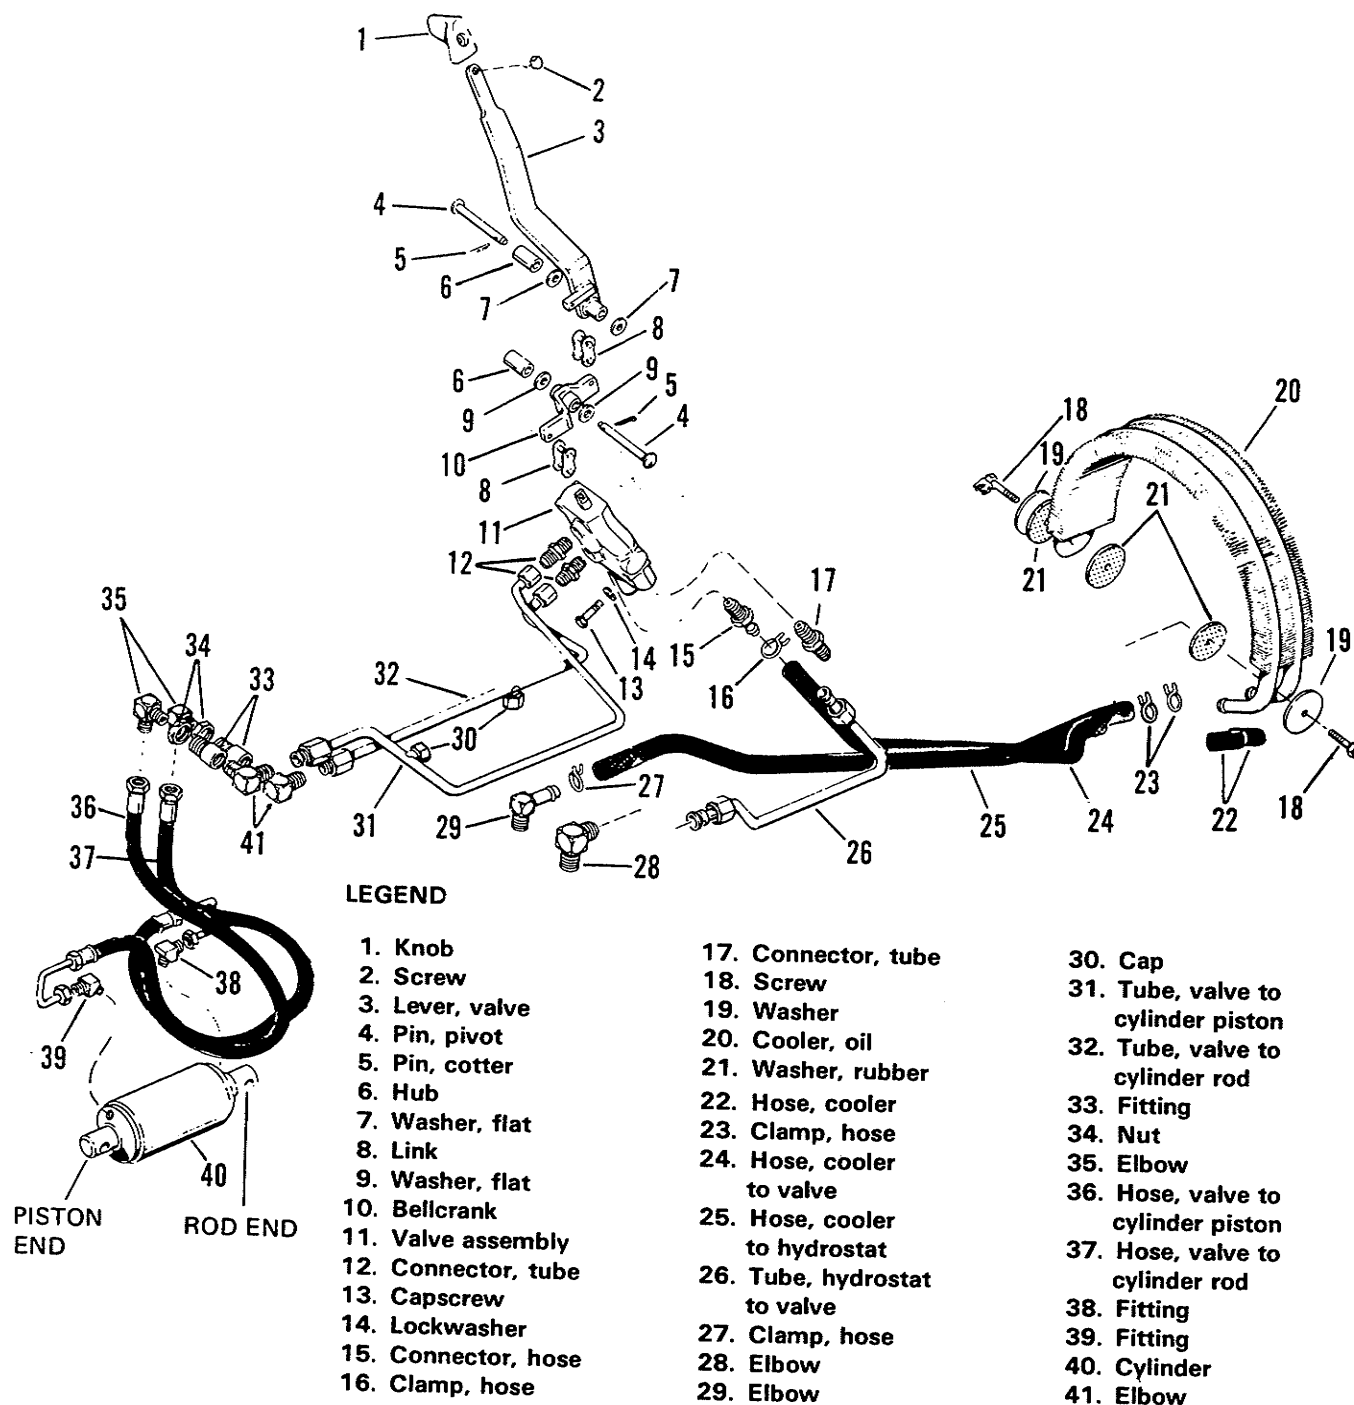

Figure 66. Power Lift System Removal and Installation (4040, 4041, Pow'r Max)
1. Remove the hydraulic control valve (Figures 66 and 67) .
- 3. Install the hydraulic control valve (Figure 66 and 67).
- a. Install the six connectors (12, 15, and 17) in the control valve. Make sure the hose connector (15) is installed in the correct orifice.
- b. Secure the control valve to the frame support with the two mounting screws (13).
- c. Attach the hose (24) to the hose connector with the hose clamp. Install the tubing caps (30). Attach the valve tubing (26, 31, 32, 54, and 55) to the connectors at the valve.
- d. If the lever assembly was disassembled, assemble it. Attach the connecting links (8) to the control valve and bell cranks (10). Check for proper operation of the control valve.
1. Remove the oil cooler (Figure 66 and 67).
- a. Remove the 1/4-20 x 1-1/2 inch long cap-screw (18) and two rubber washers (21)
3. Install the oil cooler (Figures 66 and 67).
- a. If the short hoses (22) were removed, install them on the oil cooler tubing. Attach the hoses to the oil cooler tubing using the hose clamps (23). The hoses must be positioned on the tubing so the clamps are installed behind the raised portion of the tubing.
- b. Secure the oil cooler to the right engine shroud with the 1/4-20 x 1-1/2 inch long capscrew (18) and metal washer (19) and rubber washer (21) where used, and to the left engine shroud with the 1/4-20 x 1-1/2 inch long capscrew (18), metal washer (19), and two rubber washers (21).